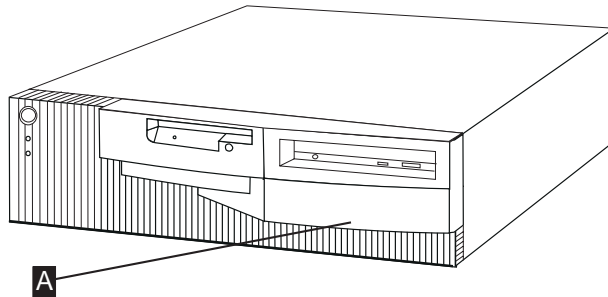

Figure 1-2. Installing Label on the Front Side of the Network Node Processor (6563)
2. ____ Using label (PN 0782966), **identify** your Network Node Processor-A or Network Node Processor-B by sticking the appropriate label **A** on the front side of the unit (refer to Figure 1-2).